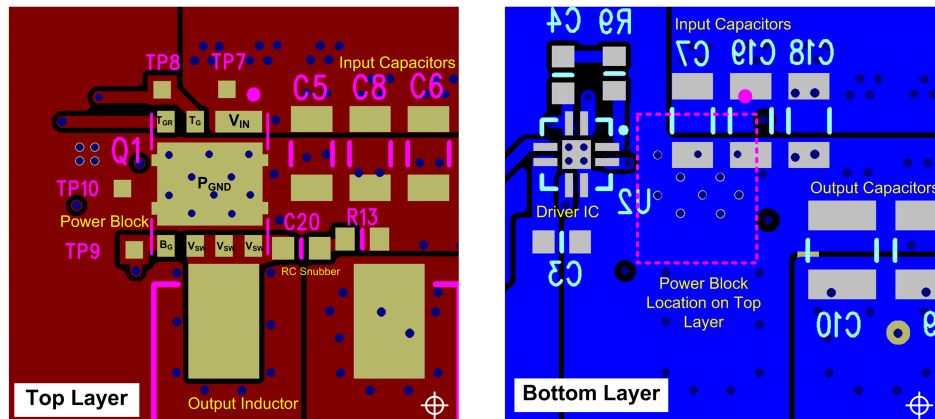

Figure 34. Recommended PCB Layout (Top Down View)
- The placement of the input capacitors relative to the power block's VIN and PGND pins should have the highest priority during the component placement routine. It is critical to minimize these node lengths. As such, ceramic input capacitors need to be placed as close as possible to the VIN and PGND pins (see Figure 34). The example in Figure 34 uses 6 × 10-μF ceramic capacitors (TDK C3216X5R1C106KT or equivalent). Notice there are ceramic capacitors on both sides of the board with an appropriate amount of vias interconnecting both layers. In terms of priority of placement next to the power block, C5, C7, C19, and C8 should follow in order.
- The switching node of the output inductor should be placed relatively close to the power block VSW pins. Minimizing the node length between these two components will reduce the PCB conduction losses and actually reduce the switching noise level. In the event the switch node waveform exhibits ringing that reaches undesirable levels, the use of a boost resistor or RC snubber can be an effective way to reduce the peak ring level. The recommended boost resistor value will range between 1 Ω to 4.7 Ω depending on the output characteristics of driver IC used in conjunction with the power block. The RC snubber values can range from 0.5 Ω to 2.2 Ω for the R and 330 pF to 2200 pF for the C. Refer to Snubber Circuits: Theory , Design and Application (SLUP100) for more details on how to properly tune the RC snubber values. The RC snubber should be placed as close as possible to the Vsw node and PGND see Figure 34 ⁽¹⁾
- Use the smallest drill size allowed in your design. The example in Figure 34 uses vias with a 10-mil drill hole and a 16-mil capture pad.